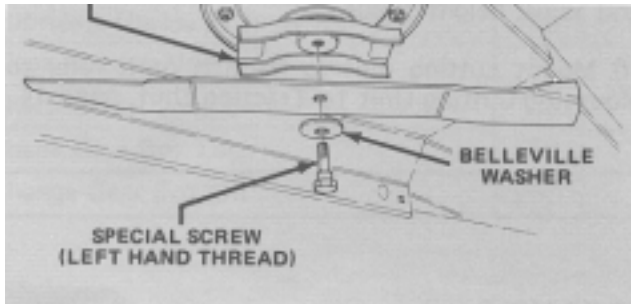

Figure 32
2. Grasp the end of the blade using a rag or thickly padded glove. Remove the special screw, Belleville washer, and blade from the spindle assembly (Fig. 32).